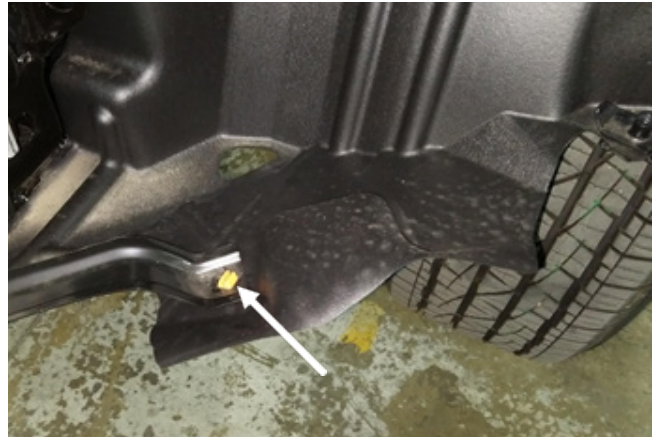

Figure 10
10. Using a pair of needle nose pliers, remove the plastic captured nut from the inner fender and support bar. Remove the impact bar from the vehicle. (Figure 10)